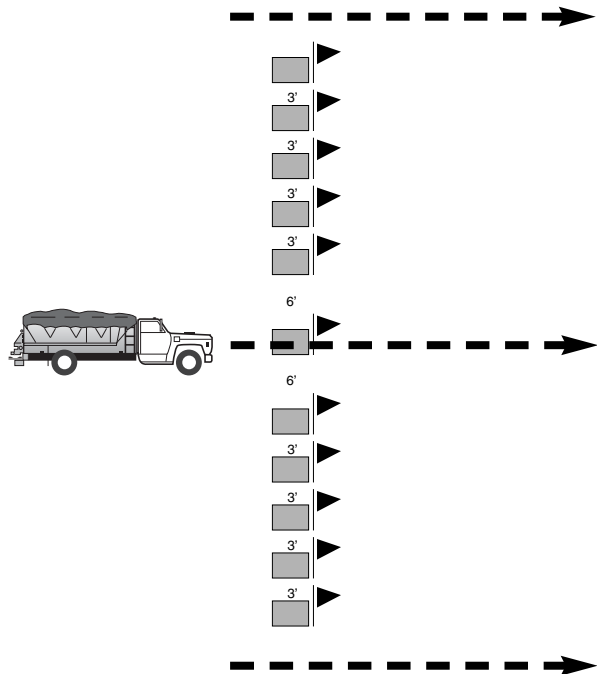

Figure 2. The pan method
1. Place pans 3 feet apart (Figure 2). Pans on either side of the center pan should be 6 feet from center to allow the spreader truck to pass over the center pan.